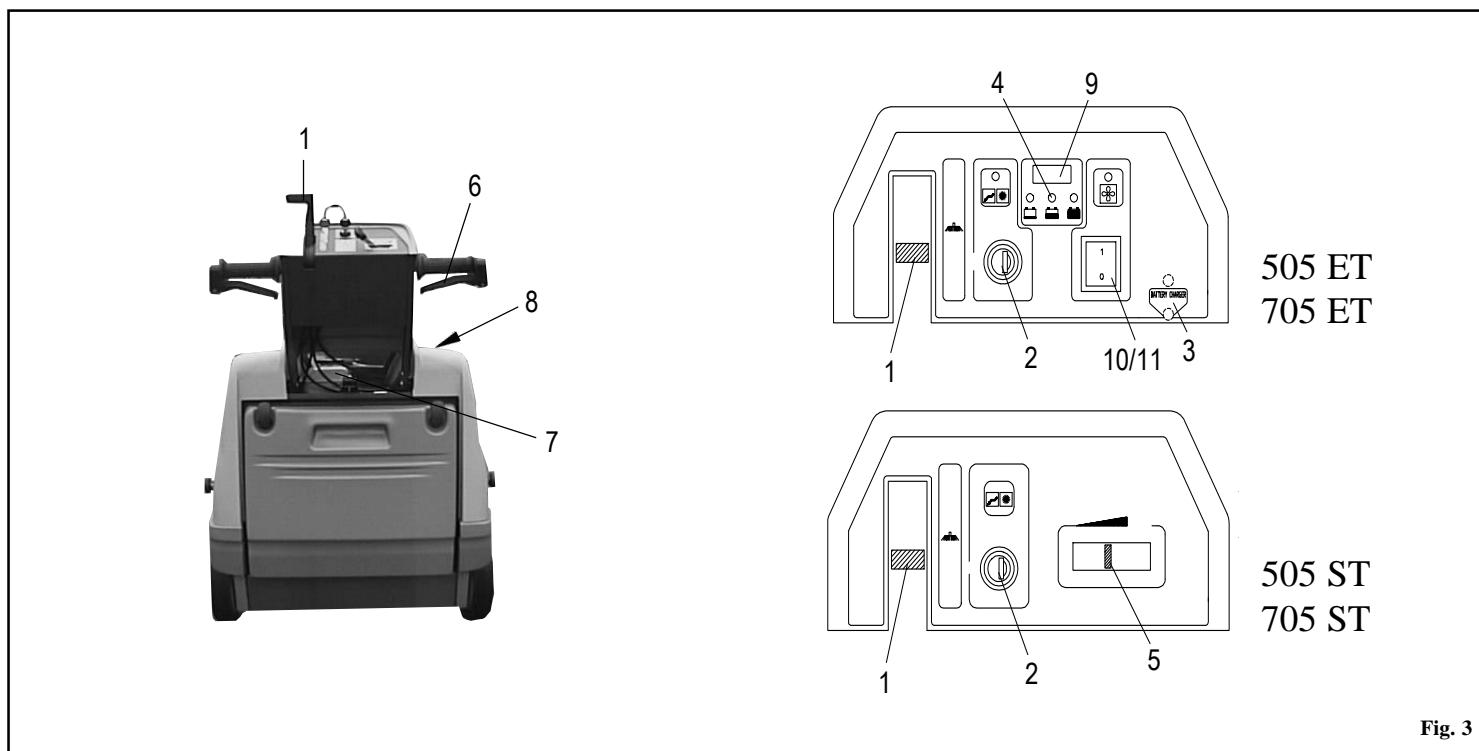

Fig. 3
- Switch the brush lift lever **pos. 1 Fig. 3**, to **OFF**.
you will not be able to operate the key **pos. 2 Fig. 3** on the dashboard. For more detailed information on the engine consult the relevant manual.
- Make sure the side brush **pos. 1 Fig. 3** is **OFF**.
- Turn the switch **pos. 2 Fig. 3 ON**. Wait 10 seconds before the machine sets off.
- Before the machine sets working, check the indicator **pos. 4 Fig. 3**, to assess whether the battery is fully charged. If it is not, proceed to recharge it.
- Pull the traction lever **pos. 6 Fig. 3**, to start cleaning.
If necessary, operate lever **pos. 1 Fig. 3**, by turning it **ON**, to start the side brush. If you have been using the side brush, at the end of your work remember to turn it **OFF**. Switch off the machine and remove the key from the control panel.
- Make sure the side brush **pos. 1 Fig. 3**, is **OFF**.
- Switch accelerator lever **pos. 5 Fig. 3**, to **START**.
- Place the key **pos. 2 Fig. 3** on **ON** position.
- Act on the accelerator **pos. 5 Fig. 3**, to reach the required speed.
- At the end of your work, if you have been using the side brush **pos. 1 Fig. 3** turn it **OFF**. Turn the accelerator lever to **START** and turn off the machine with the key **pos. 2 Fig. 3**. Close up fuel tap **pos. 3 Fig. 4**.